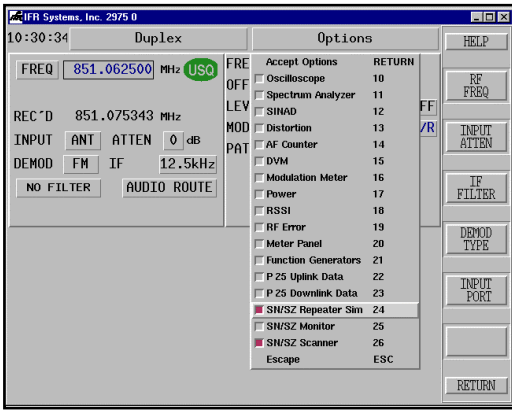

Figure 7.0 Selecting SN/SZ Repeater Simulator
From there, we want to enable the Repeater Simulator. To do this, select the "Options" button next to the Duplex display at the top right of the display or select <SHIFT>, <MODE> and then select item 24 "SN/SZ Repeater Sim". See figure 7.0 for this selection.